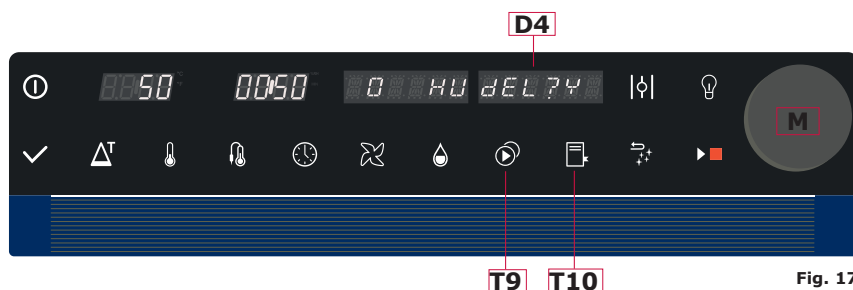

Fig. 17
To save the modifications, press and hold the **T10** (Fig.17) button for 3 seconds.
3. Press and hold the button **T9** (Fig.17).
4. The display **D4** (Fig.17) will show: **DEL? N**